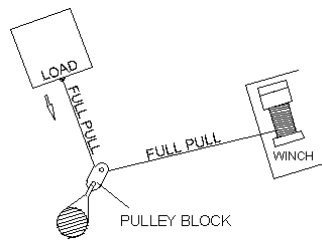

Fig.10
3. The use of a pulley block to change the direction of the pull. Mechanical advantage can be obtained by attaching a pulley block to the nylon sling. (Fig. 10)